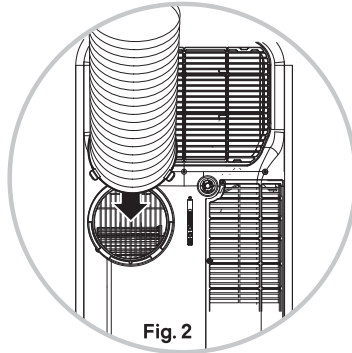

Fig. 2
4. Slide the exhaust connector (#13) to the air outlet (#9) on the rear of the unit. (Fig. 2)